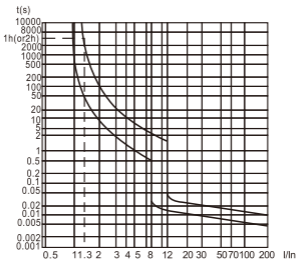

Figure 2: Overcurrent tripping characteristic curve figure
3.3.15 Overcurrent tripping characteristic curve is shown in Figure 2.